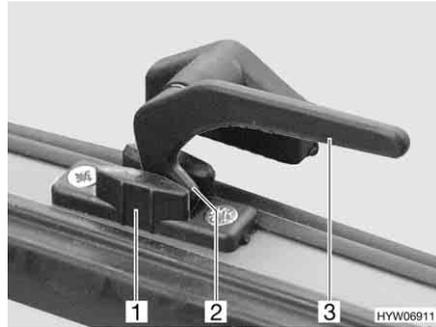

Fig. 58 Catch lever in the "continuous ventilation" position
- "Continuous ventilation" (Fig. 58)
- Turn the catch lever (Fig. 58,3) a quarter turn towards the centre of the window.
- Return the catch lever to its initial position. The locking catch (Fig. 58,2) has to be moved into the recess of window catch (Fig. 58,1).